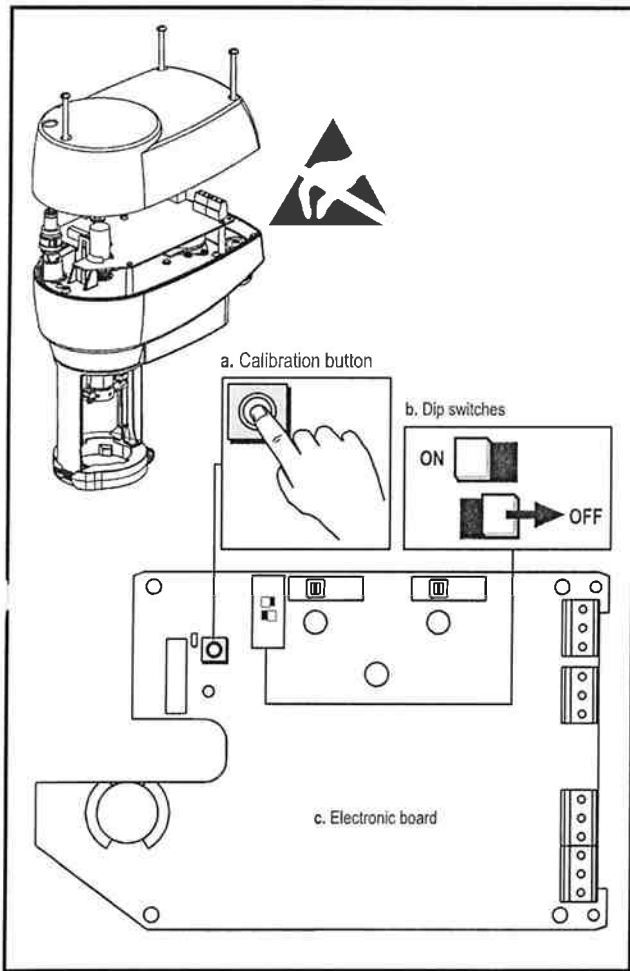

Figure 4:
To start the auto calibration cycle push and hold the button for at least 3 seconds (see figure 4). The LED flashes rapidly during the entire procedure. The actuator will make one full cycle to detect the stem extended and retracted limits. The end stroke indicators are automatically placed at the stroke limits. When the procedure ends, the actuator switches back to its operating mode and reaches the position corresponding to the input signal value. The LED shows steady green when the position is achieved. If the control-signal changes, the actuator stem will move to the new position. During stem movement the LED flashes green
To start the auto calibration cycle push and hold the button for at least 3 seconds (*see figure 4*). The LED flashes rapidly during the entire procedure. The actuator will make one full cycle to detect the stem extended and retracted limits. The end stroke indicators are automatically placed at the stroke limits. The actuator will make a full cycle to detect the stem extended and retracted limits and the end stroke indicators automatically pushed to the stroke limits. Enter the desired signal range while the actuator performs the auto calibration. Enter the desired parameters as follows:
- Set the Minimum input signal (start-point), which can be from 0 - 6 V DC (0 - 12 mA) and confirm by pressing the button (*see figure 4*).
The DIP switches (see Fig. 4) permit easy in-situ setting of operational parameters without the need for any other configuration device.